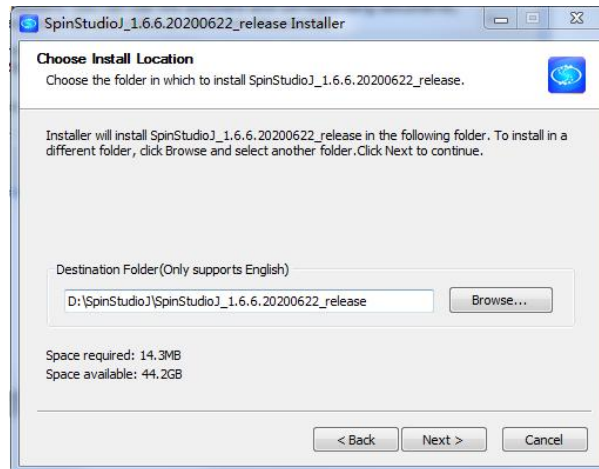

Figure 2.4 Installation path
4. Select the target path for installation. Generally use the default path, as shown in Figure 2.4, and then click **Next**. The installation path can only be in English, and there can be no space characters. If the conditions are not met, the next step cannot be performed.